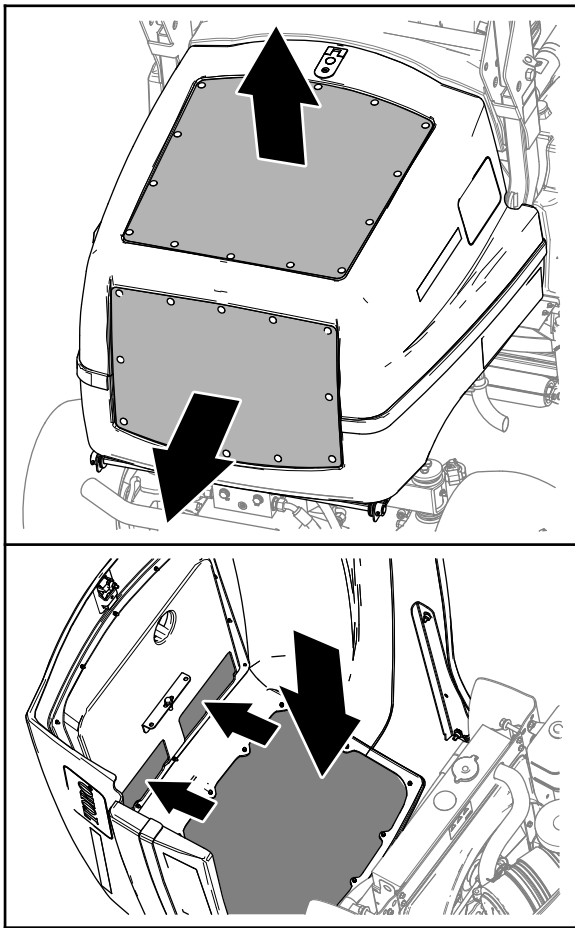

Figure 77
2. Clean the outside of the screens in the hood (Figure 77).
3. Unlatch and open the hood (Figure 77).
4. Clean the inside of the hood screens with compressed air (Figure 77).